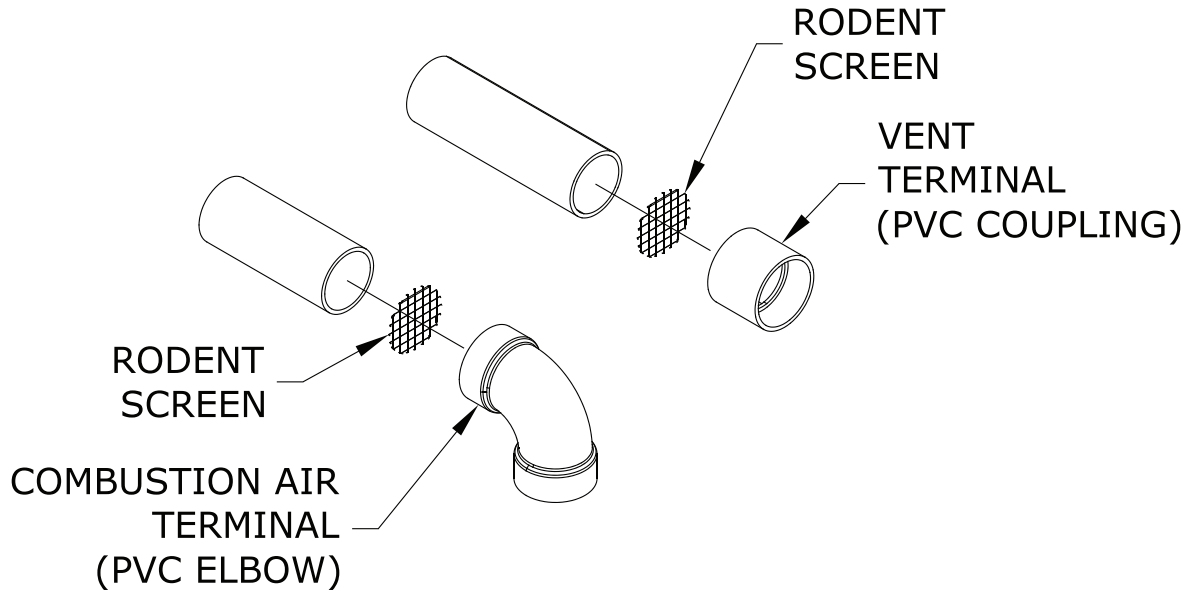

Figure 7.28: Installation of Standard Horizontal Terminals
- See Figure 7.28 for proper orientation of twin pipe horizontal terminals. Outer edge of both terminals must be within 10" from wall surface. (Figure 7.6)